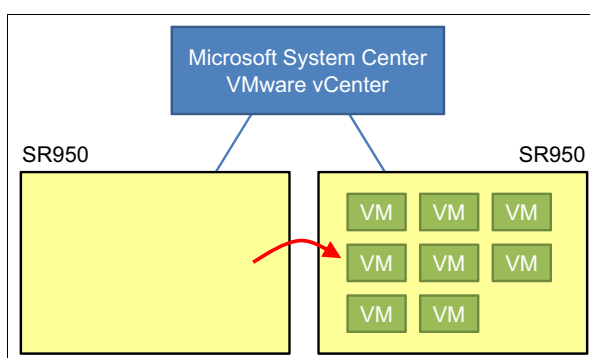

Figure 7-21 UIM evacuates first servers VMs for updating
2. Any virtual machines (VMs) that are running on the first server are moved from the first server to another server, as shown in Figure 7-21.